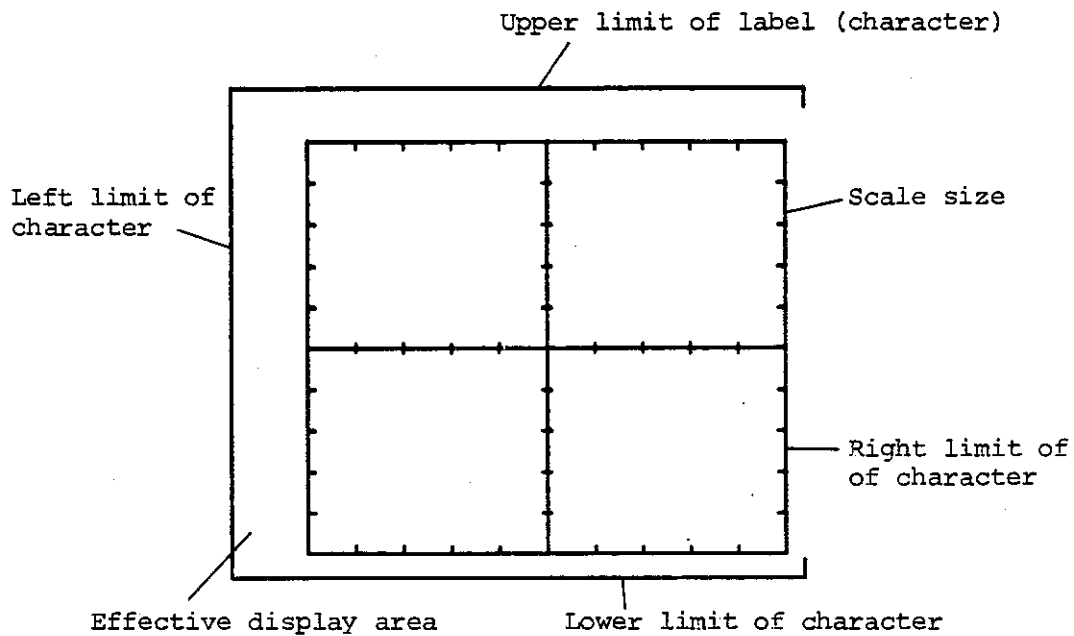

Fig. 11-7 Standard display scale (MPH-20803A)
- (3) Scale position adjustment
- (4) Character size and position adjustment
- (a) Place the standard pattern scale shown in Figure 11-7 (used for x-and y-axis adjustment) on the display screen.
- (5) Line generator adjustment